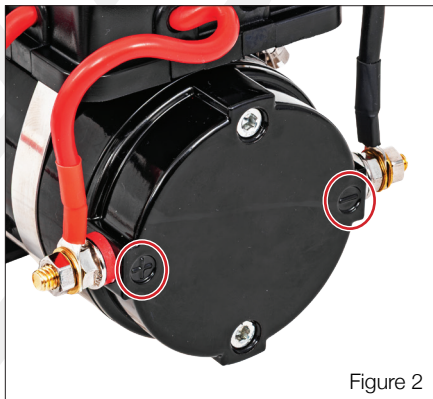

Figure 2
- The red wire connects to the rear of the winch mount on the terminal with the (+) symbol. The black wire connect to the winch's front post with the (-) negative symbol. Fig.2